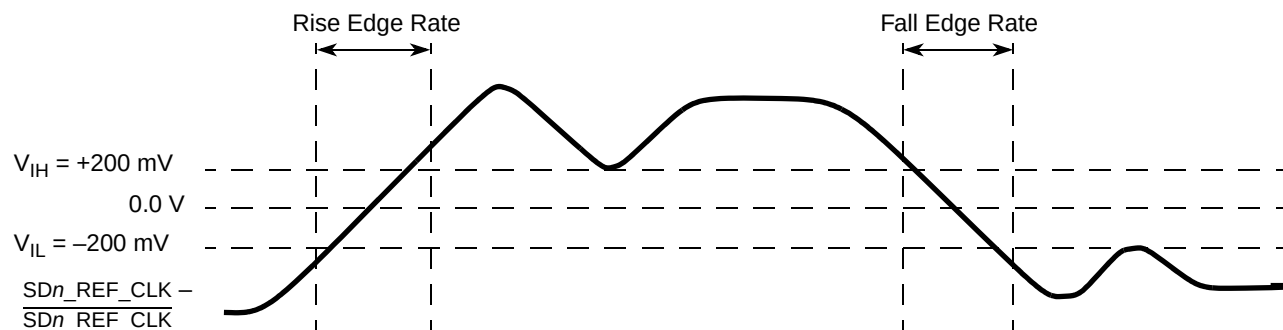

Figure 48. Differential measurement points for rise and fall time
- Measured from −200 mV to +200 mV on the differential waveform (derived from SDn_REF_CLK minus $\overline{\text{SDn_REF_CLK}}$). The signal must be monotonic through the measurement region for rise and fall time. The 400 mV measurement window is centered on the differential zero crossing. See Figure 48.